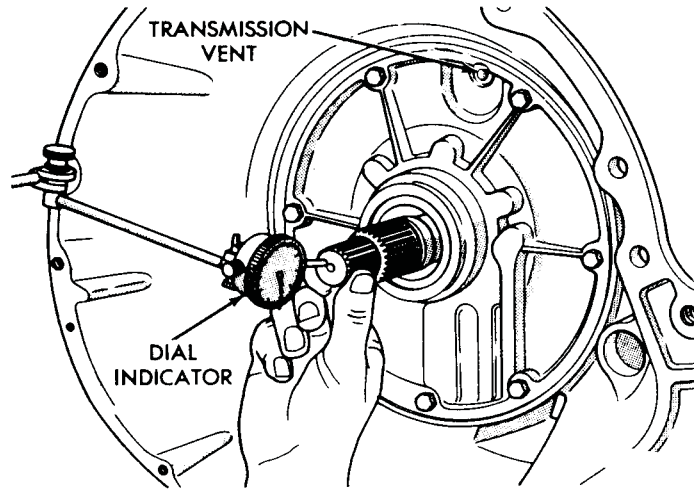

Fig. 4—Measuring Input Shaft End Play
(1) Attach a dial indicator to transmission bell housing with its plunger seated against end of input shaft (Fig. 4).